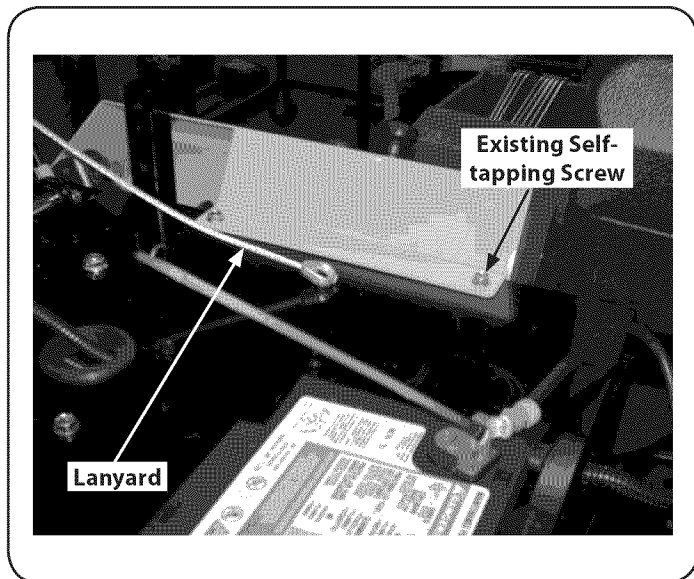

Figure 4
10. Install lanyard using existing self-tapping screw. See Figure 4.